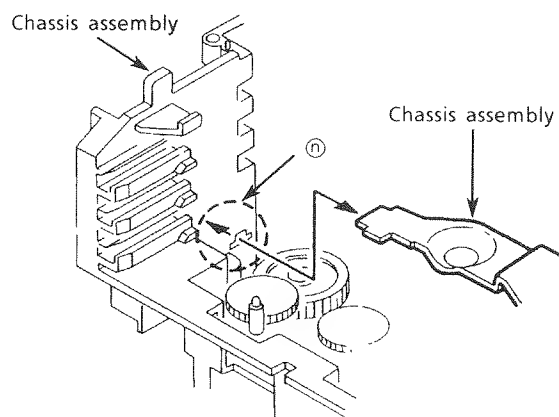

Fig. 45
3. Remove the gear bracket from the chassis ass'y's (N) securing top of the gear bracket. (See Fig. 45.)